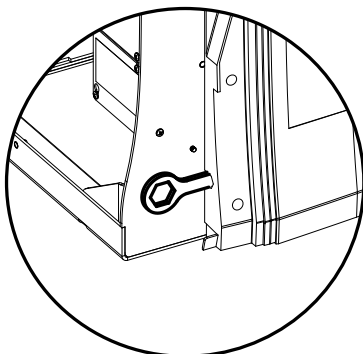

Figure 28. Store the Taper Wrench
1. Taper clamp wrench is supplied in the ship-with kit and is stored on the right side of the operator chassis. (Figure 28)